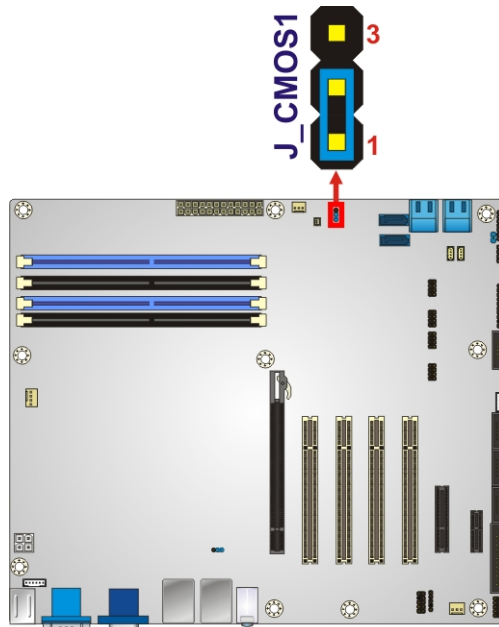

Figure 4-9: Clear BIOS Jumper Location
- Jumper Location:** See Figure 4-9